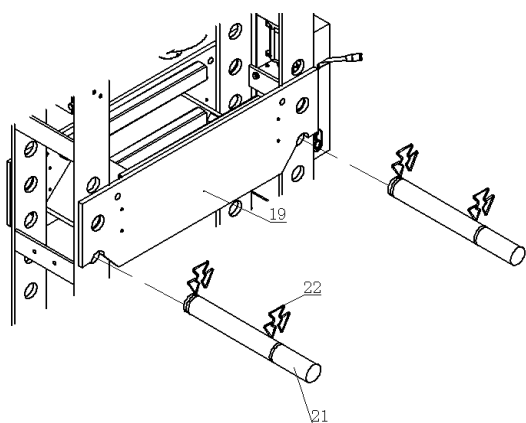

Fig. 5
Make the press table (19) to the correct height, then insert the safety pin (21). In the holes in the frame and lock with snap rings (22) (Figs. 5 and 6)